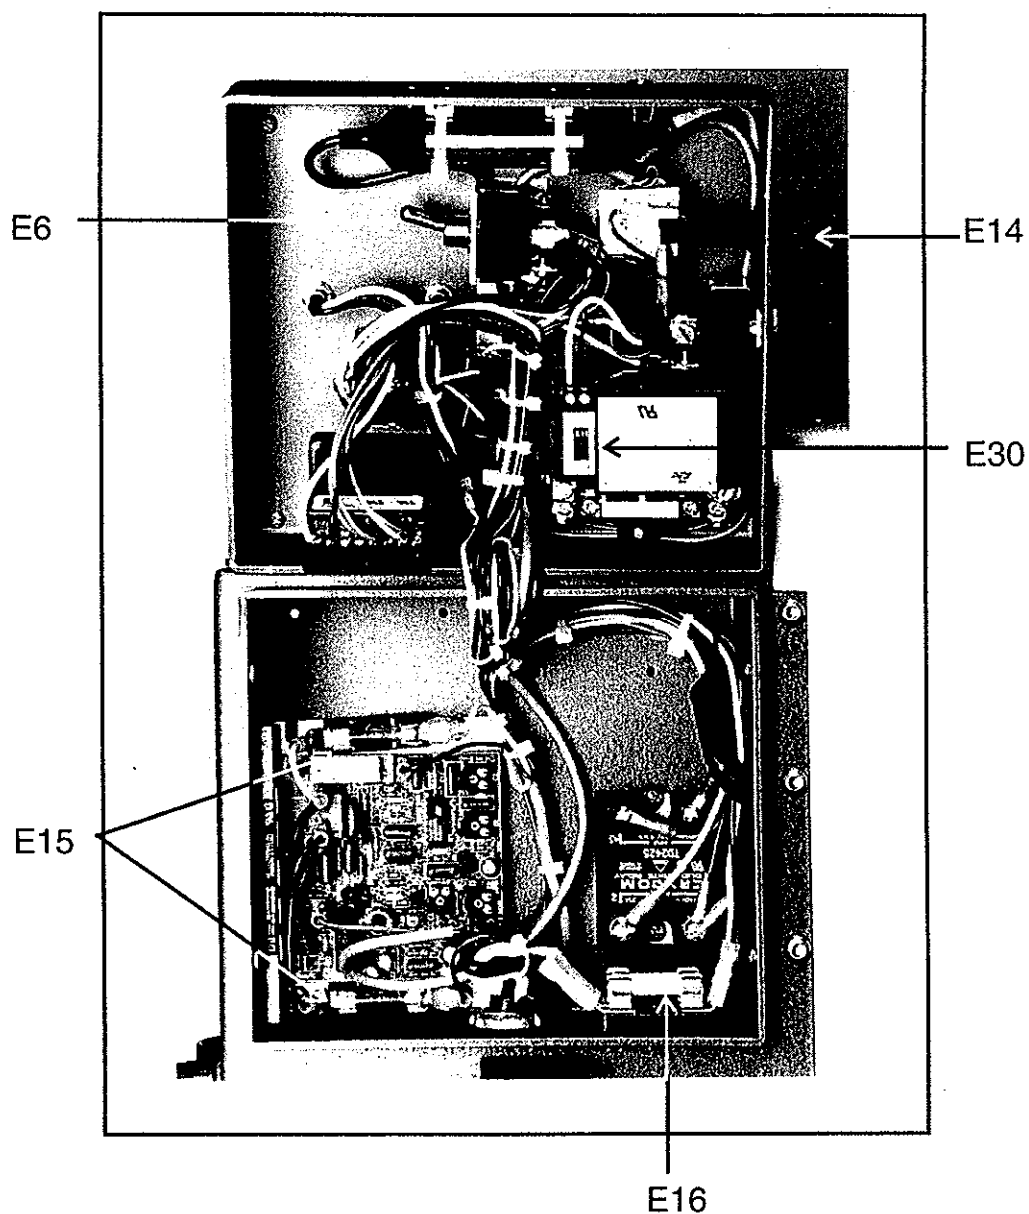

FIGURE 10
NOTE: To access key electronic components shown on page 23 Figure 10, the Top Handle, Handle Brackets, and Lid Screws will need to be removed.
2. Switch Speed Readout Voltage Selection Switch, figure 10 (E30) and Main Operating Voltage Selection Switch (E6), to desired voltage (110v or 220v).
No power supplied to "Wedge-It"	• Check power cord and power supply. • Check main fuses (Figure 10 (E1))
Nip Rollers will not rotate (drive)	• Check motor on/off switch • Check motor speed setting • Check motor fuses (Figure 10 (E2))